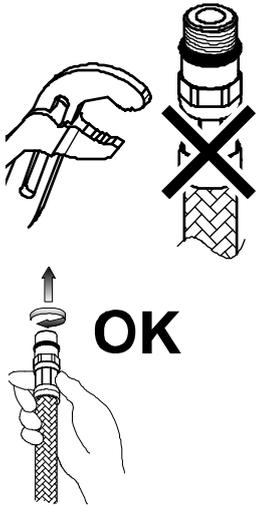

**Fig.1**
1. Screw the fixing stud (G) into the base on the tap (A). **Note: Fig.1 identifies the water inlets, viewed from the base of the tap.**
2. Place the base plinth (B) then the upper seal (C) on to the base of the tap (A).
3. Screw the Cold (J), Hot (I) and filter (Z) tail pipes into the base of the tap.
4. Place the tap (A) centrally and straight to the tap hole, passing the fixing stud (G) and tail pipes (J, I & Z) through the sink.
5. Pass rubber horseshoe (E) then the metal horseshoe (F) over the fixing stud (G). **Note: Only if the tap is to be fitted to a stainless steel sink then the white triangular plate (D) can be fitted where shown to improve the stability of the tap.**
6. Using a spanner tighten fixing nut (H) onto the fixing stud (G), a box spanner or small basin wrench will help if one is available.
7. Screw adaptor (X) to Filter tail pipe (Z) ensuring fiber washer (Y) is placed inside first (see drawing). **Note: We advise using PTFE tape on threaded section of adaptor (X) to make a good seal.**
8. Screw the pushfit fitting (W) into the adaptor nut (X). **Note: We recommend using PTFE tape (do not use sealing compound) on the thread of the pushfit fittings to make a good seal without applying excessive force (which may damage the plastic pushfit if overtightened).**
9. Attach the hot water tail pipe (I) to the water supply.
10. Attach the 3-way valve (O) to the cold water feed pipe using compression nut (M) and olive (L).
11. Attach the 3-way valve (O) to the cold water inlet pipe (J) using a short length of 15mm pipe, compression nut and olive (not supplied).